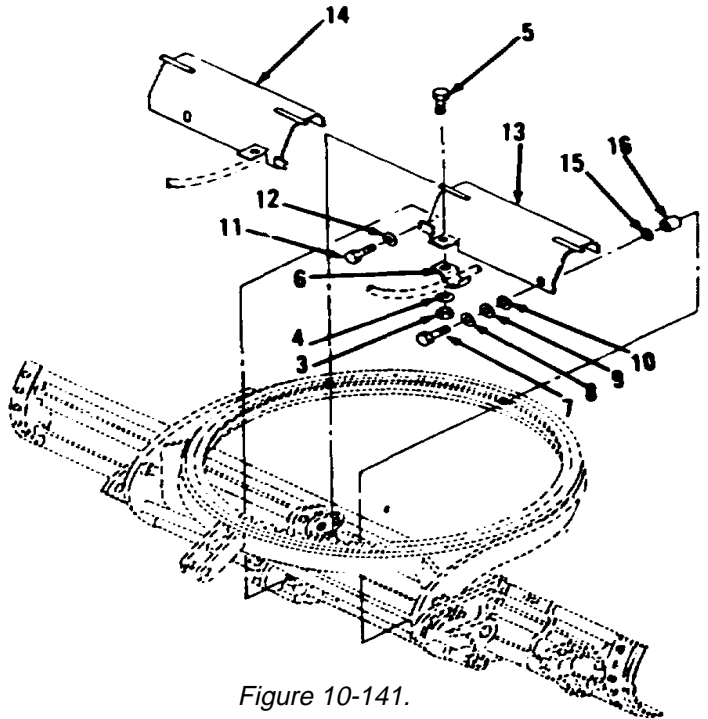

Figure 10-141.
5. Expand rod end of cylinder (38) in operator's compartment. Move blade far enough to right to get access to cylinder (38).
9. Remove two nuts (3), washers (4), bolts (5) and clamps (6, Figure 10-141).
10. Remove two bolts (7), washers (8 and 9) and spacers (10).
11. Remove two bolts (11) and washers (12).
12. Remove guards (13 and 14), two washers (15) and spacers (16).